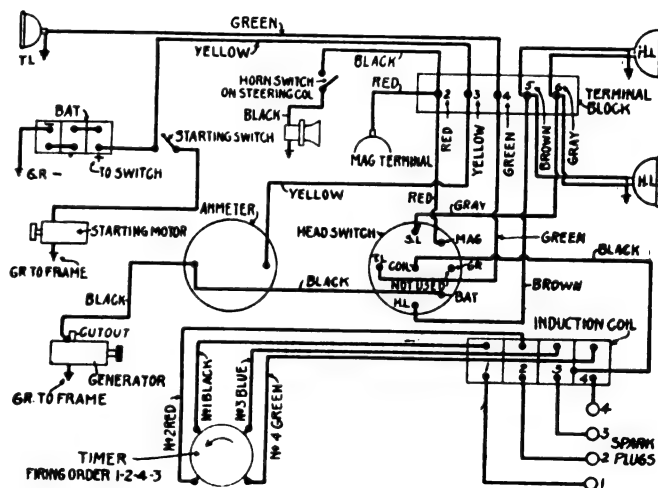

Fig. 2
**F**IGURE 1 shows the Ford standard starting, lighting, and ignition system as printed in the Ford handbook, Cut No. 27. Fig. 2 shows the same system in a clearer form and one much easier to trace out. Although the diagram is laid out differently the parts will be found approximately in the same positions that they
There is one mistake in the Ford diagram which has been corrected in Fig. 2. The headlight wires at the terminal block are stated to be gray to light bulb and brown to dim terminal, but are reversed at the headlights. An actual inspection of the wiring system will show that the brown wire connects with the light bulb